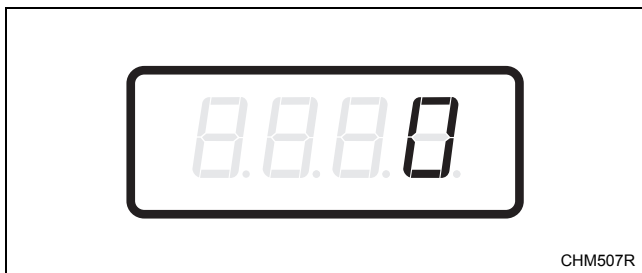

Figure 16
4. When “AtS4” appears in the display, press the START (enter) keypad. There are five digits in the Vend Price #4. The fifth digit will appear in the display and will flash one second on, one second off. Refer to *Figure 16*.